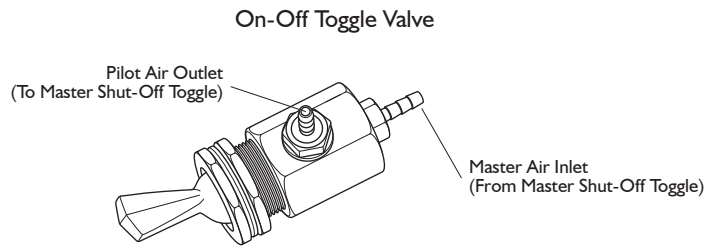

Figure 3
3. It is sometimes desirable to install an on-off toggle valve on the utility center. A 1/2" diameter hole is provided on the utility center housing for mounting the valve. Figure 3 shows the tubing connections for a typical on-off valve.